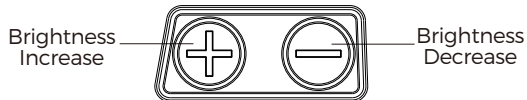

Fig 7
1. Switch ON: Momentarily press either brightness button ("+" or "-") to turn on the sight. (See Fig 7)